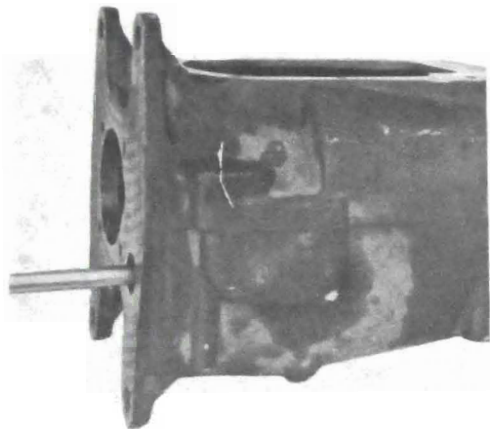

Figure 72-309 Removing Countershaft
10. Using drift or other suitable tool, drive countershaft and its woodruff key out rear of case. See Figure 72-309.
11. Remove countergear and its two (2) tanged thrust washers from each end of the countergear.